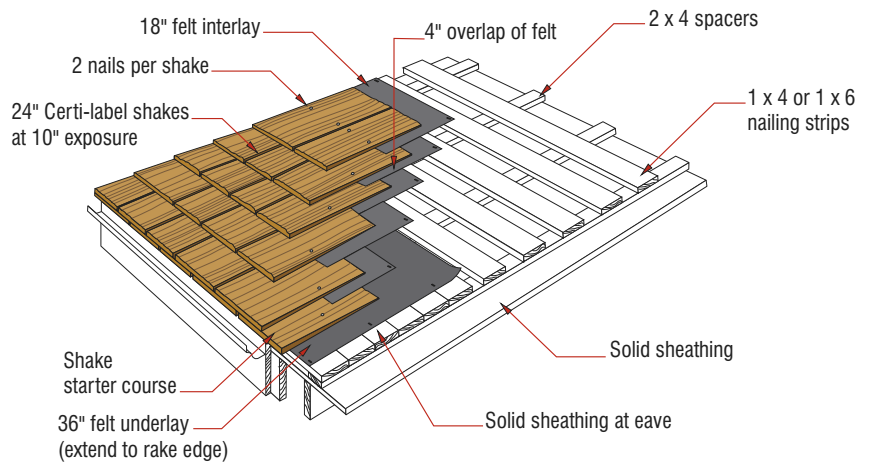

Figure 23b: Vertical Strips Over Solid Sheathing Application (Option 2 Depicted)
2. Apply vertical strips over the sheathing in alignment with the rafters below, then place horizontal furring strips on top of the vertical boards. (See Figure 23b).